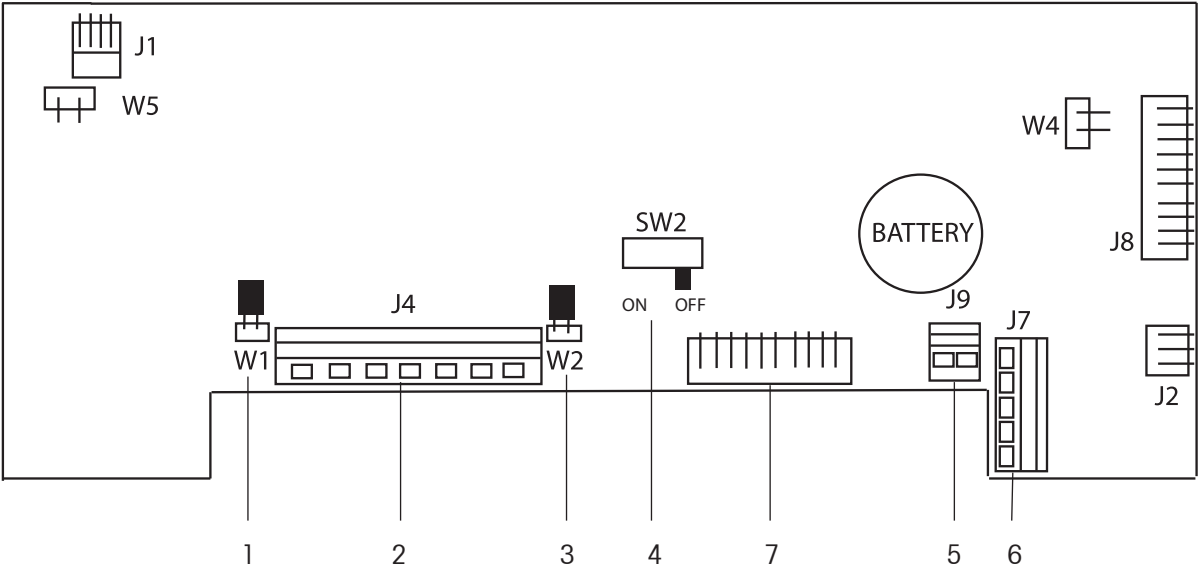

Figure 1-3. Main PC Board.
Bases without a connector must be attached to the internal load cell connector on the main PC board. Pass the load cell cable through the strain relief (Figure 1-1, item 13 or Figure 1-2, item 13) and attach it to terminal block J4 (Figure 1-3, item 2). Tighten the strain relief to maintain a watertight seal.